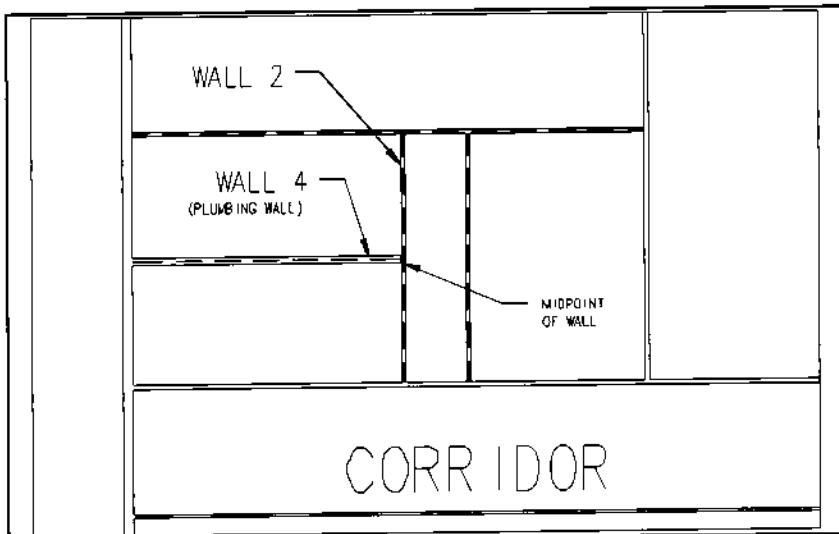

Figure 25.
3. Drag across perpendicular to the opposite wall as shown in Figure 25.
- > Pick start point for the first wall segment <Autopt>: **MID of [WALL 2 as shown in Figure 25]**